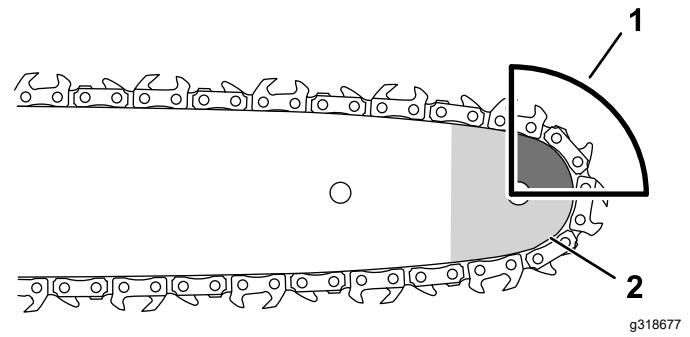

Figure 9
Figure 9 shows the area of the bar to avoid contacting an object to prevent kickback.
- Clean the area around the oil cap (Figure 9).
- Remove the oil-tank cap by rotating counterclockwise, and pour bar and chain oil into the pole saw until the oil reaches the MAX line on the oil tank (Figure 9).